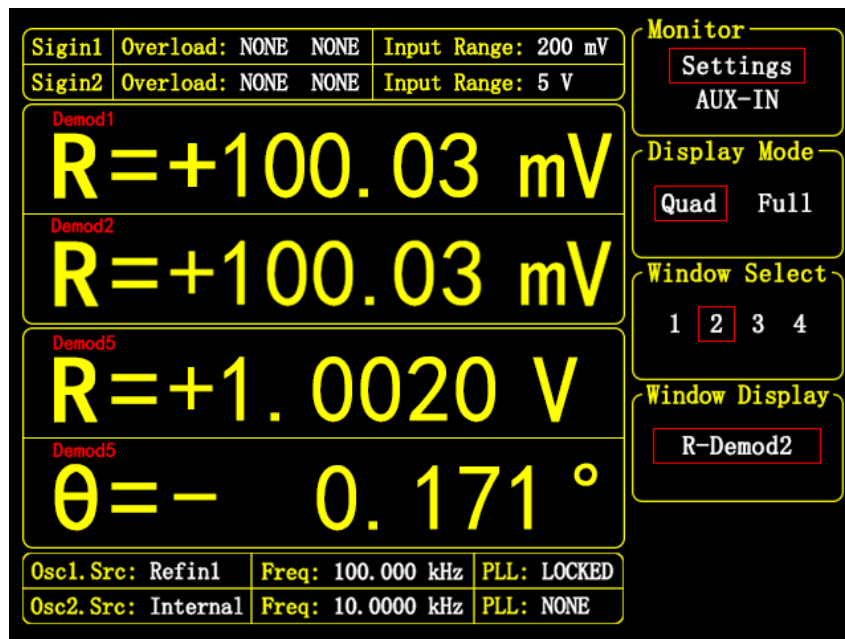

Figure 99. Modified Window Display Result
In the default system settings, the four data windows display the <R> and <θ> values of Demod1 and the <R> and <θ> values of Demod5, respectively. The displayed values can be changed using the method described below. In the [Display] submenu, press "Soft key 3" to switch among <1>, <2>, <3>, and <4> in the <Window Select> menu. For example, selecting <2> means that the second window is selected. Then press "Soft key 4" to select the <Window Display> menu, and use the knob to change the displayed value to "R-Demod2". After the modification, the result is shown in Figure 99. This method can be used to view the desired measurement result.